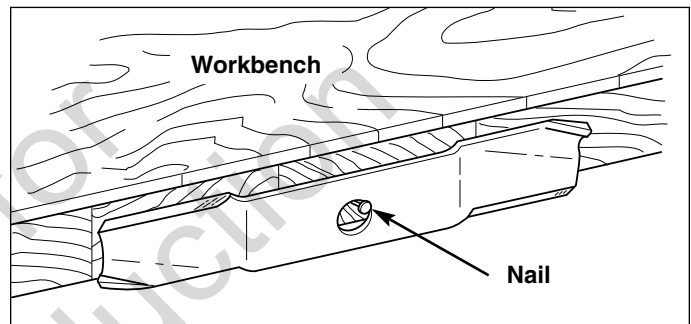

Figure 28. Balancing the Blade
5. Balance the blade as shown in Figure 28. Center the blade's hole on a nail lubricated with a drop of oil. A balanced blade will remain level.